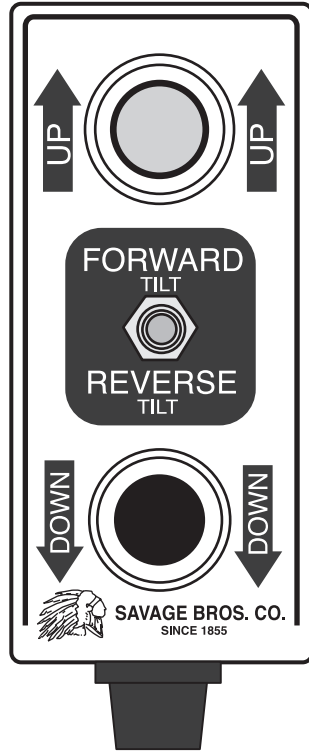

Figure 22
2. Using the operator control, (Figure 22) press the UP button until the slide assembly is about half-way up the column.